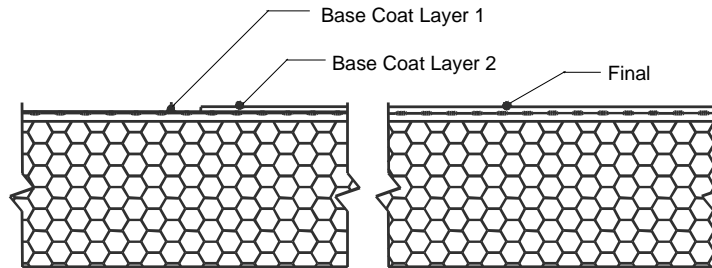

Figure 3
- a. The base coat shall be applied such that the resulting overall minimum base coat thickness is sufficient to **fully embed** the reinforcing mesh. The recommended method is to apply the base coat in two (2) passes.
- 3) Allow the base coat mixture to take up until firm to the touch. Trowel a second tight coat of the base coat mixture over the first coat to **fully cover** the reinforcing mesh - Figure 3. The result should be such that the reinforcing mesh is approximately centered within the base coat thickness. Do not allow the first pass to completely dry prior to the second pass application or an excessive amount of base coat mixture will be necessary to fully coat the wall surface.